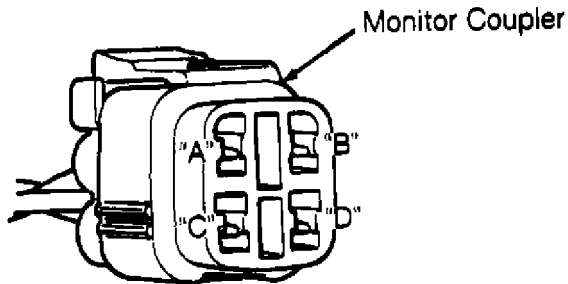

Fig. 2: Identifying Monitor Coupler Terminals (Samurai & Sidekick)
2) Remove protective cap from monitor coupler located next to battery. Connect jumper wire between terminals "C" (ground) and "D" (test switch). See Fig. 2. Aim timing light at crankshaft pulley and timing cover timing marks. If ignition timing is not within
- (2) - With jumper wire installed between "C" and "D" terminals of monitor coupler connector, located near battery. See Fig. 2.
- (3) - With jumper wire installed between "D" and "E" terminals of monitor coupler connector, located near ignition coil.
2) Turn engine off. Connect Duty Meter (99963-00006) to monitor coupler duty check terminal "A" and ground terminal "C". See Fig. 2. Test connector is located near battery. Turn ignition on, and wait 5 seconds.